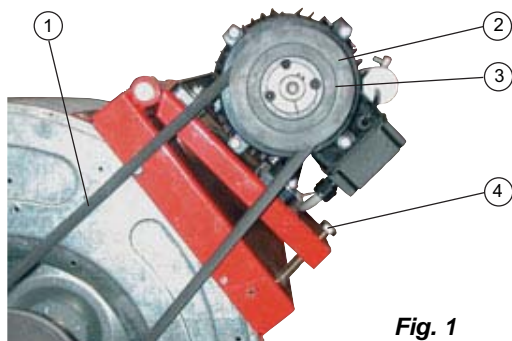

Fig. 1
- If the heater is equipped with centrifugal fan and if the volume of hot air differs from preset values proceed as follows (Fig.1):
- 2) Remove the screws (2) from the motor slide.
- 3) Remove the belt (1);
- 4) Loosen the bolts (3);
- 6) Tighten the bolts (3);
- 8) Repeat operations (1) -(7) until the correct volume of air flow has been achieved.